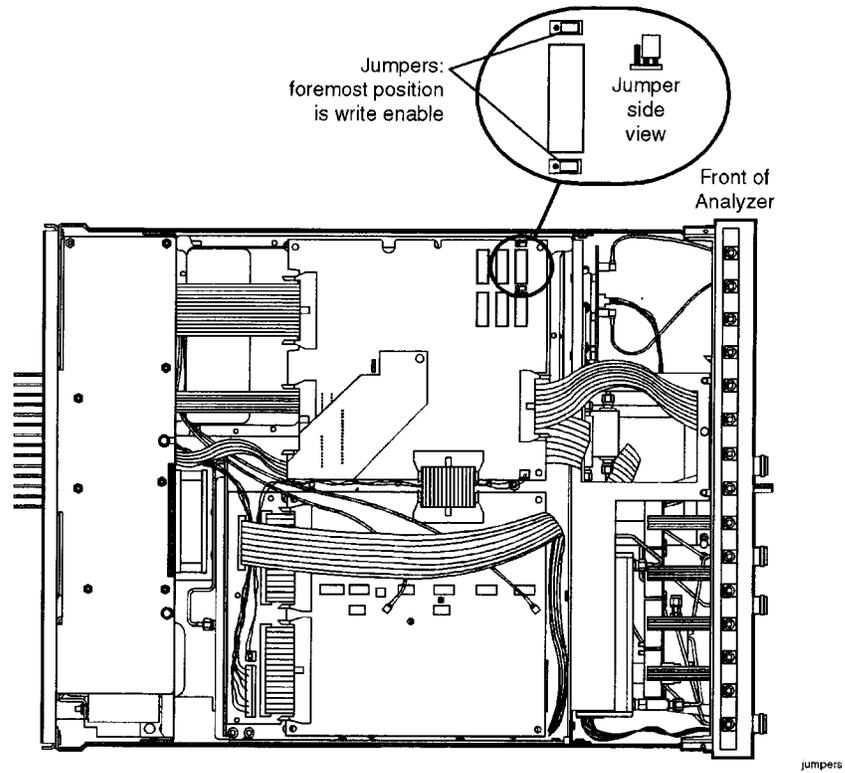

Figure 2-3 RF Filter Section EEROM Jumpers
1. Set both jumpers on the A11 processor board to their foremost position (refer to Figure 2-3 on page 2-7).
After all computer controlled adjustments in this procedure are completed, set the jumpers back to the write-protect position; refer to Figure 2-3.